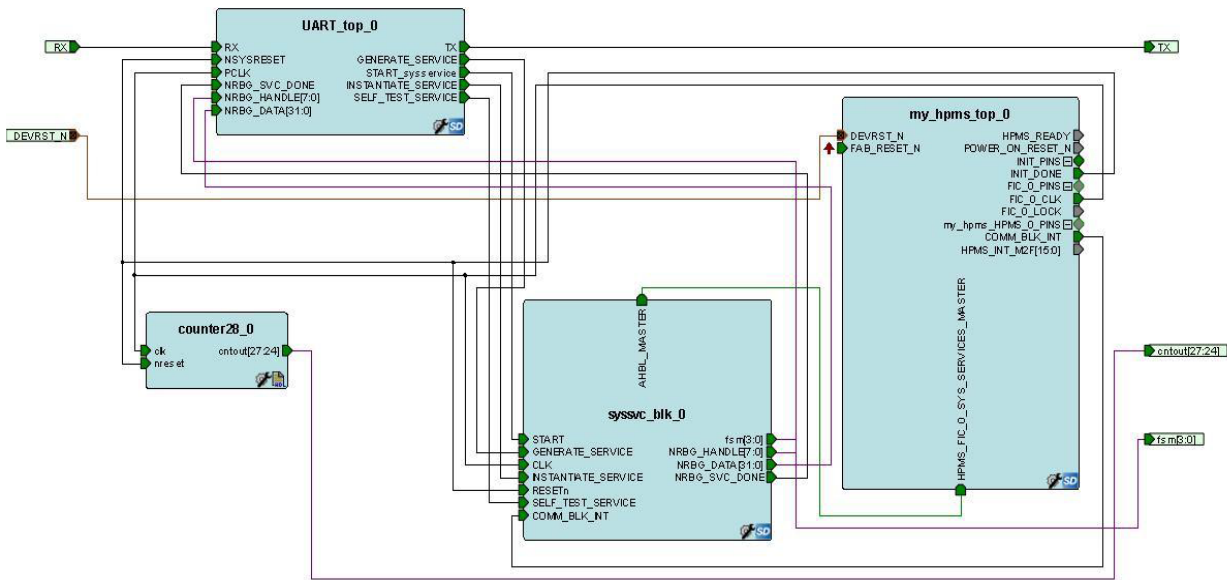

Figure 33 Tie Signal to the Top Using SmartDesign
- After making all the connections listed, top-level Smart Design canvas TOP appears, as shown in Figure 33. Drag the components or use the SmartDesign Auto Arrange feature to improve the appearance of the canvas.